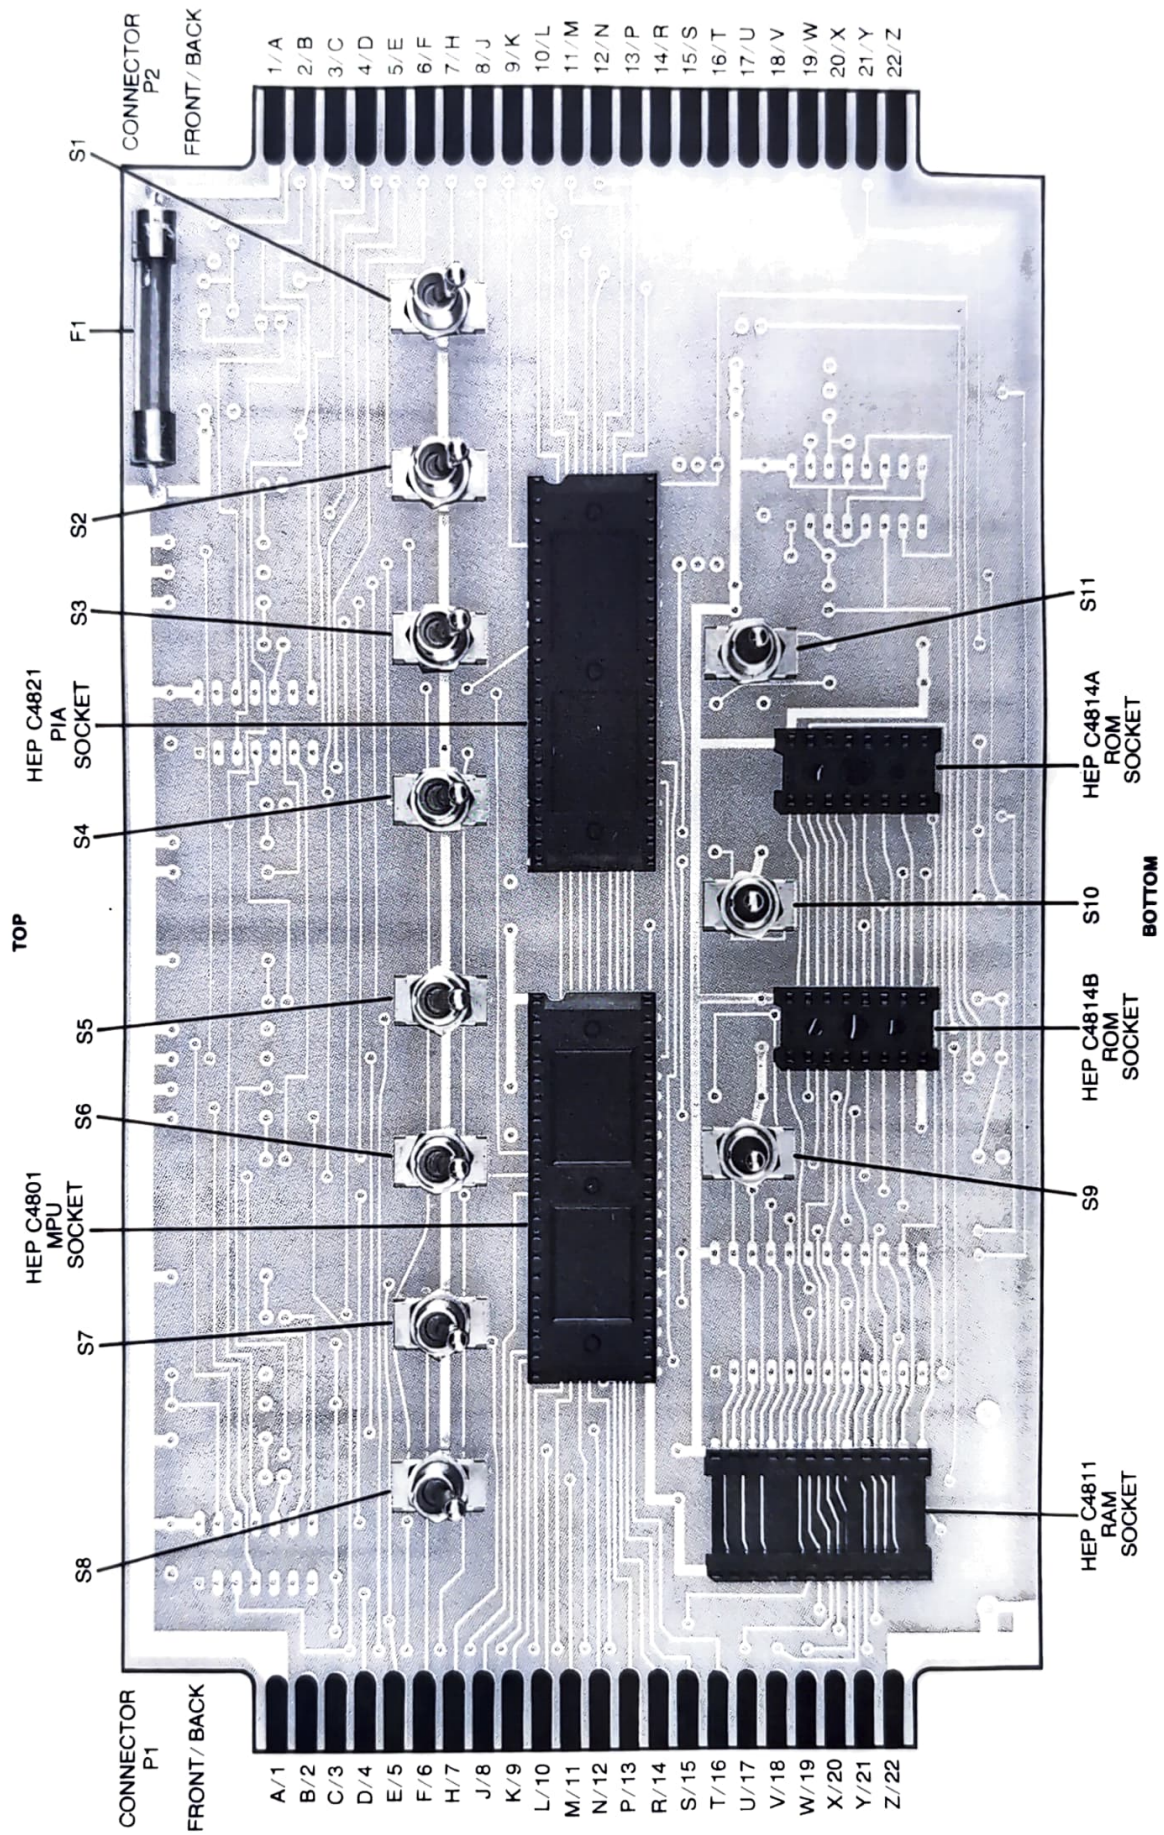

FIGURE 1-1. Installation of Sockets, Switches, and Fuse
The first step of the installation procedure is to install the sockets, switches, and fuse. Refer to Figure 1-1 during this procedure.
2. P2 refers to connector pads located on the right-hand edge of the board. The connector pads on the front side of the board are numbered from top to bottom from P2-1 to P2-22. The connector pads on the back side of the board are numbered from top to bottom from P2-A to P2-Z. Note that P2-22 and P2-Z are connected together. The number for each connector pad is also shown on Figure 1-1.